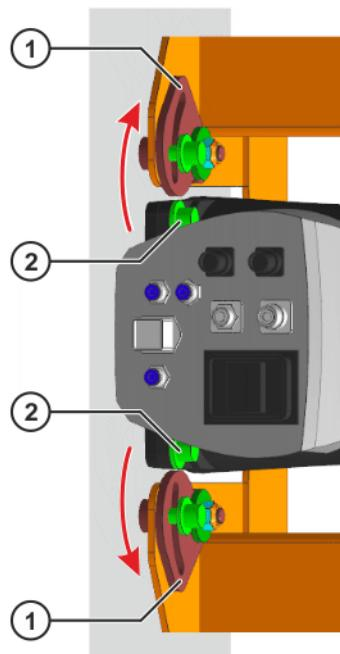

Fig. 8-7: Rotating the swivel holders outwards
15. Rotate the swivel holders outwards (**>>> Fig. 8-7**).